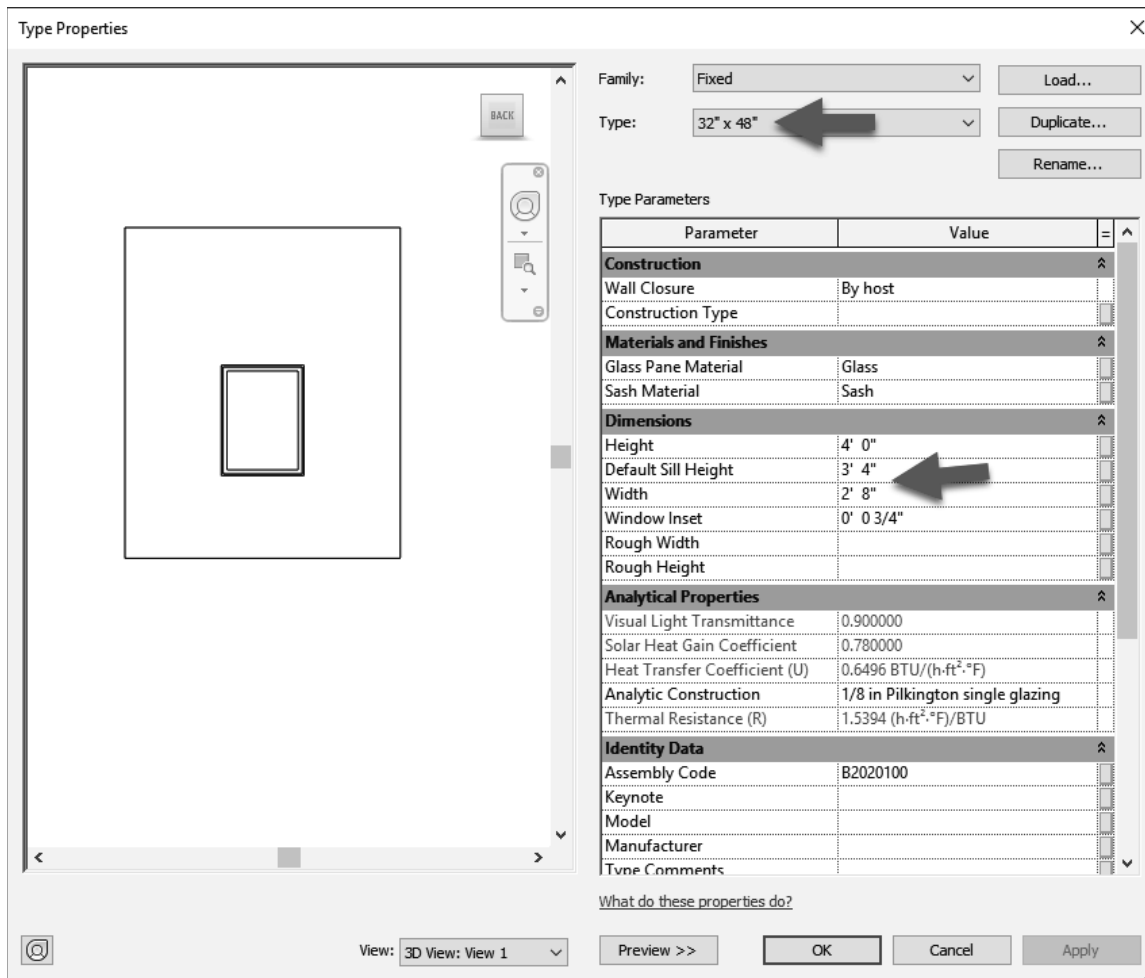

FIGURE 3-5.8 New window size with modified window sill height
15. Adjust the sill height for your new window size to fit within masonry coursing as well. Set the sill height for *Fixed: 32" x 48"* to be *3'-4"* (Figure 3-5.8).